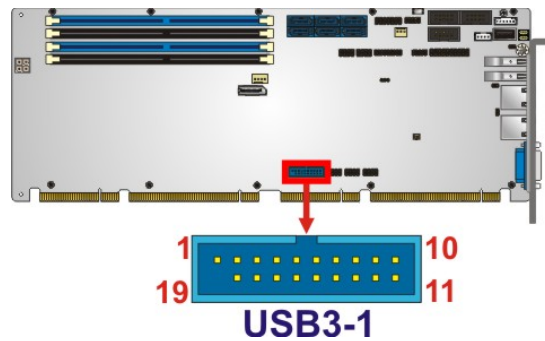

Figure 3-27: USB 3.1 Gen 1 Connector Location
- CN Location:** See **Figure 3-27**